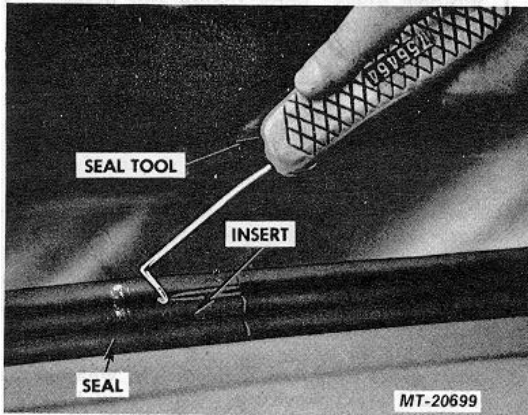

Fig. 31. Removing Windshield Weatherseal Insert
3. Pry integral or detached insert from weatherseal with a thin blade screwdriver or sealtool (SE-2442) (Fig. 31) around entire glass. See Fig. 32 for details of weatherseal.
5. Work weatherseal insert (Fig. 31) down into groove provided around entire weatherseal. Use seal tool or a dull screwdriver to seat insert in groove. A second coat of rubber lubricant in groove will simplify installation.